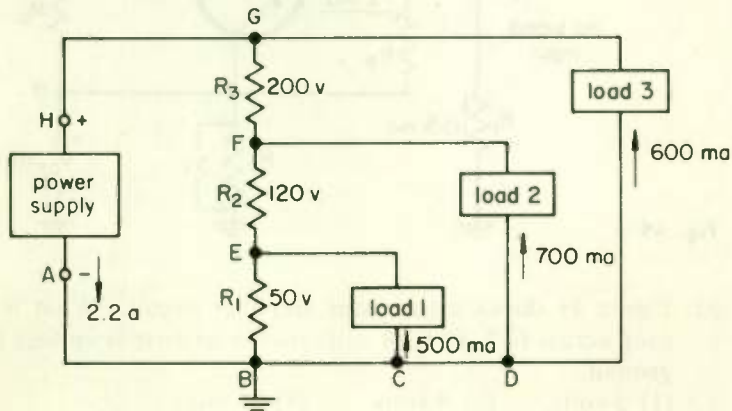

Fig. 48
28. Figure 48 shows a three-element voltage divider and its loads. What is the value of current flowing in the wire that connects *C* to *D*?
- (1) 200 ma (3) 600 ma (5) 1300 ma
(2) 500 ma (4) 700 ma (6) 2.2 amp
29. What is the value of current through R_2 in Fig. 48?
- (1) 200 ma (3) 500 ma (5) 1200 ma
(2) 400 ma (4) 900 ma (6) 2200 ma
30. How much voltage is furnished by the power supply in Fig. 48?
- (1) 50 volts (3) 170 volts (5) 320 volts
(2) 120 volts (4) 200 volts (6) 370 volts
31. If you were building the circuit of Fig. 48, what value of resistance should you use for R_1 ?
- (1) 20 ohms (4) 200 ohms (6) 250 ohms
(2) 22.7 ohms (5) 227 ohms (7) None of these
(3) 125 ohms
32. What is the voltage across load 2 in Fig. 48?